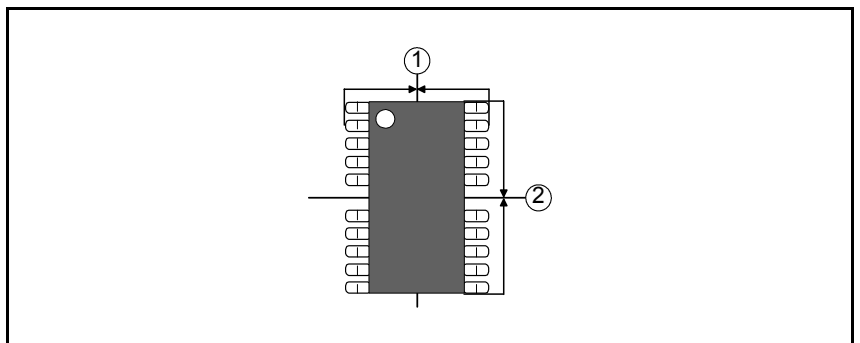

Figure A-3. Package symmetries
Yes – Lead groups on opposite sides of the package will be adjusted so that they have the same distance to the axis ('1' in Figure A-3). Every lead group will also be adjusted so that the distance from the two outer leads of the group to the axis vertical to the group (2) is the same.